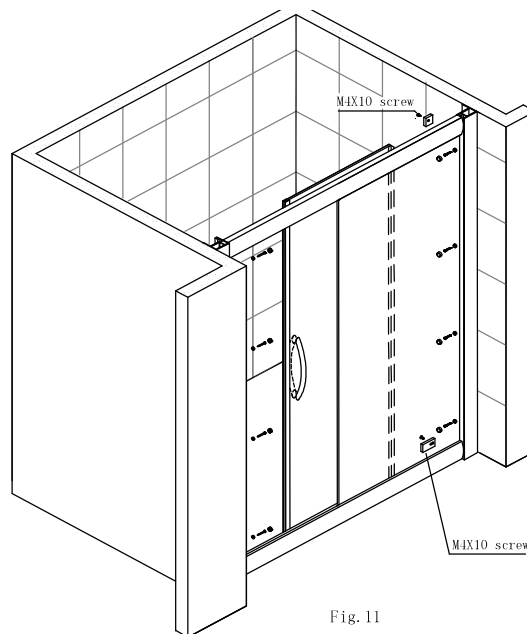

Fig. 11
(ENG) Take all finished door frame to between two walls, use M4x30 screws (5) to fix the door frame onto the walls. As Fig. 11 Adjust the upper double wheels to make sure the sliding doors move smoothly and in good sealing. Use M4X10 (20) screws to fix the Fijador plástico corto (21) and Fijador plástico largo (10) onto the rail. As Fig. 11.